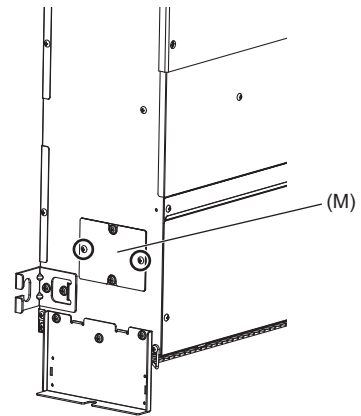

Fig.15
- (1) Remove the two fixing screws on the bearing cover (M) to remove it. (Fig. 15)